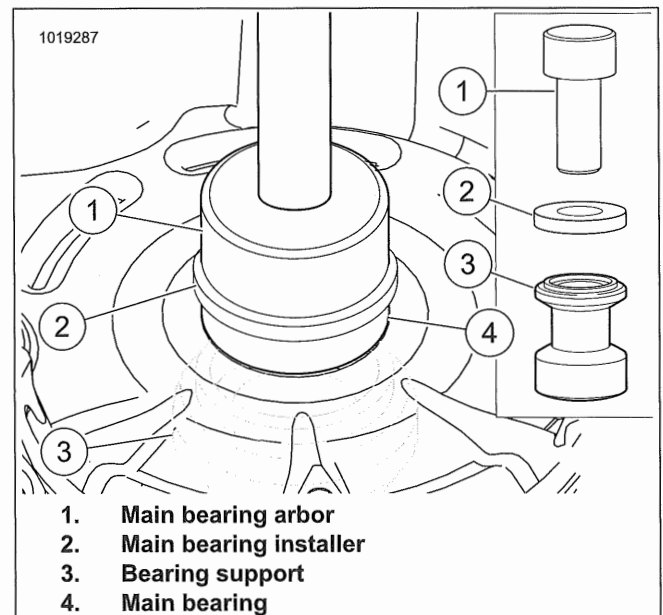

Figure 4-70. Install Left Main Bearing
1. See Figure 4-70. Install bearing using MAIN BEARING INSTALLER (PART NUMBER: HD-52071-3), MAIN BEARING ARBOR (PART NUMBER: HD-52071-2) and BEARING SUPPORT (PART NUMBER: HD-52071-4).
- a. Place crankcase on bearing support (3) with flywheel side facing up.
- b. Spread a thin film of clean engine oil on OD of new bearing (4).
- d. Place main bearing installer (2) with side marked LEFT against the bearing.
- e. Place main bearing arbor (1) through main bearing installer (2) and bearing into bearing support.